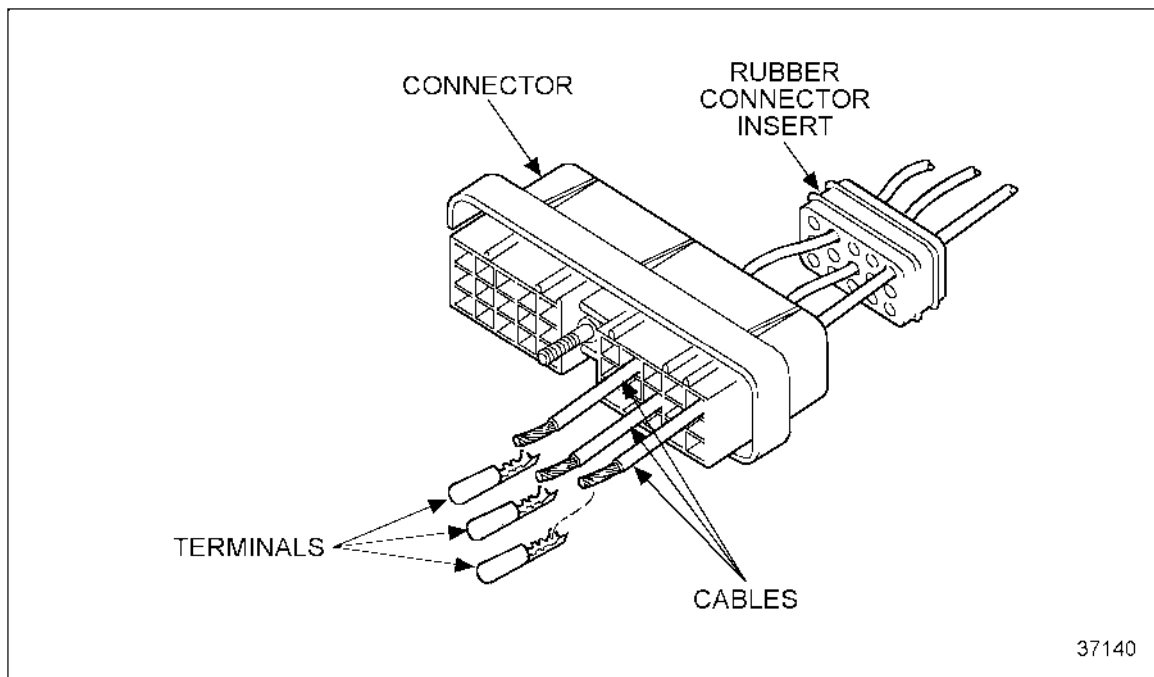

Figure 3-37 Wire Inserted Through the Connector
1. Insert the wire through the appropriate connector hole/cavity (see Figure 3-37).
2. Remove the insulation from the end of the cable, exposing a sufficient amount of core leads to be crimped by the terminal core wings (see Figure 3-37).